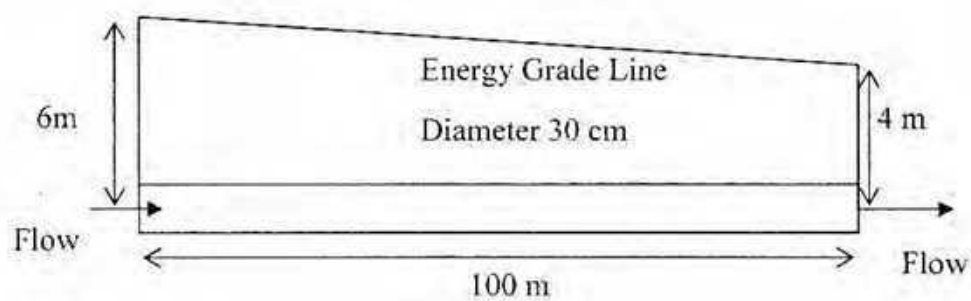

Figure 10
- c. Water is flowing through a pipe. The energy grade line is shown in Figure 10. Calculate flow of water through the pipe. Take  $f=0.04$ .